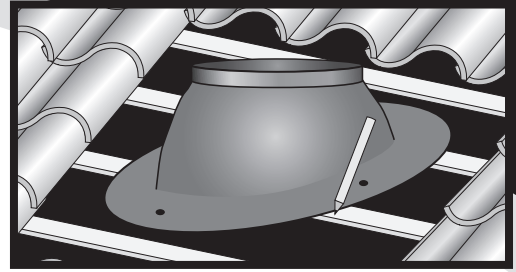

Figure 1
1. On the roof, locate the centering hole (from **Step 4** of the tubular skylight installation) and carefully remove surrounding tiles. Remove enough tiles to accommodate the skirt. Place flashing over the location where the unit will be installed and mark around the flashing footprint onto the furring strips (see Figure 1). Remove the portion of the furring strips where the flashing will be installed (allowing the flashing to sit directly on roof sheathing).